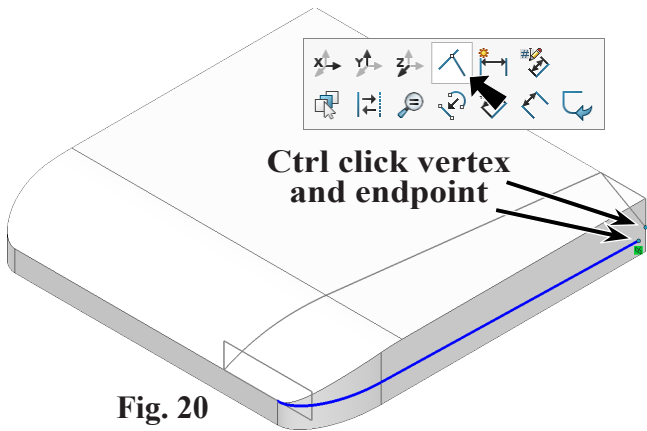

Fig. 20
Step 5. **Ctrl click Spline Point 2 and endpoint Sketch3** to select both, **Fig. 20**. Release Ctrl key and click **Make Coincident**  on the Context toolbar.